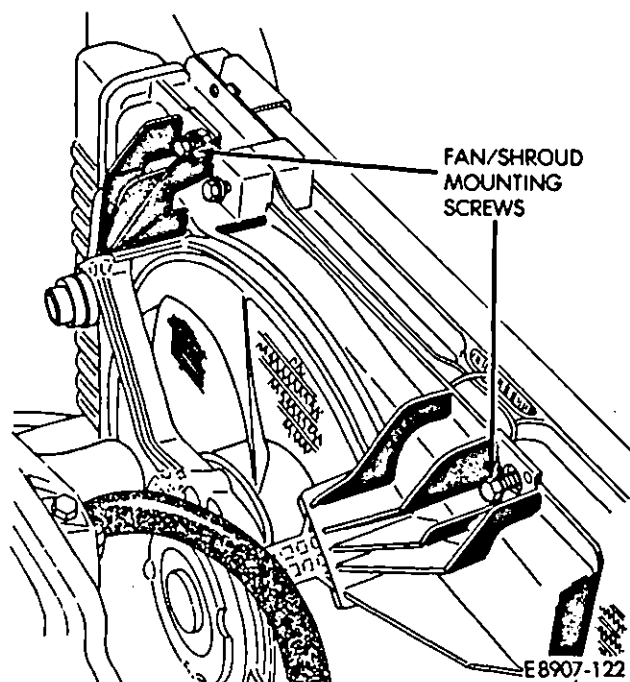

Fig. 15—Fan/Shroud Assembly Removal/Installation
- (5) Remove cooling fan/shroud assembly mounting screws (Fig. 15).
- (6) Remove fan/shroud assembly by lifting upwards.
- (2) Install fan/shroud assembly mounting bolts. Tighten screws to 8.8 N·m (78 in-lbs) torque (Fig. 15).